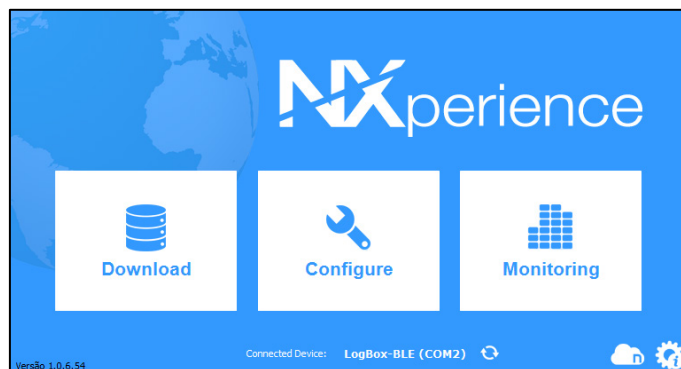

Figure 62 – NXperience home screen
- f. On the **NXperience** startup screen, as shown in **Figure 62**, pressing the Ctrl + Shift + F12 keys simultaneously will cause the firmware update screen to reappear, as shown in **Figure 63**.